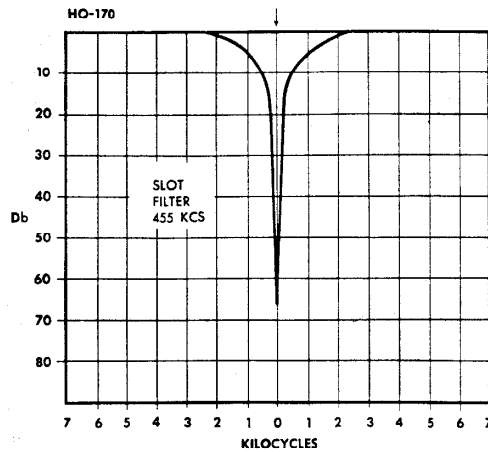

Figure 6. Slot Filter Response Curve
*** The Slot frequency control provides an extremely sharp adjustable slot or notch in the selectivity curve (see Figure 6). It is normally located outside of the passband of the 2nd IF (455 Kcs). It is brought into the passband for the purpose of eliminating interference from heterodyne